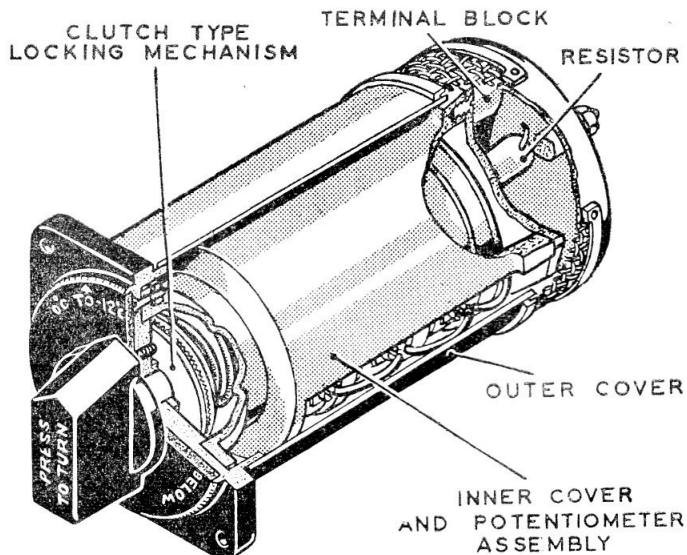

Fig. 1. Temperature selector, Type FHK/A/42
2. Temperature selectors in this group differ from the typical unit described in the main chapter, in that they have a triple ganged potentiometer (*fig. 1*), instead of a single unit, and are connected electrically as a potential divider and not as a variable resistance. In lieu of a miniature Mk. 4 a 3-way terminal block is fitted. A locking clutch is interposed between the control knob and the central spindle.